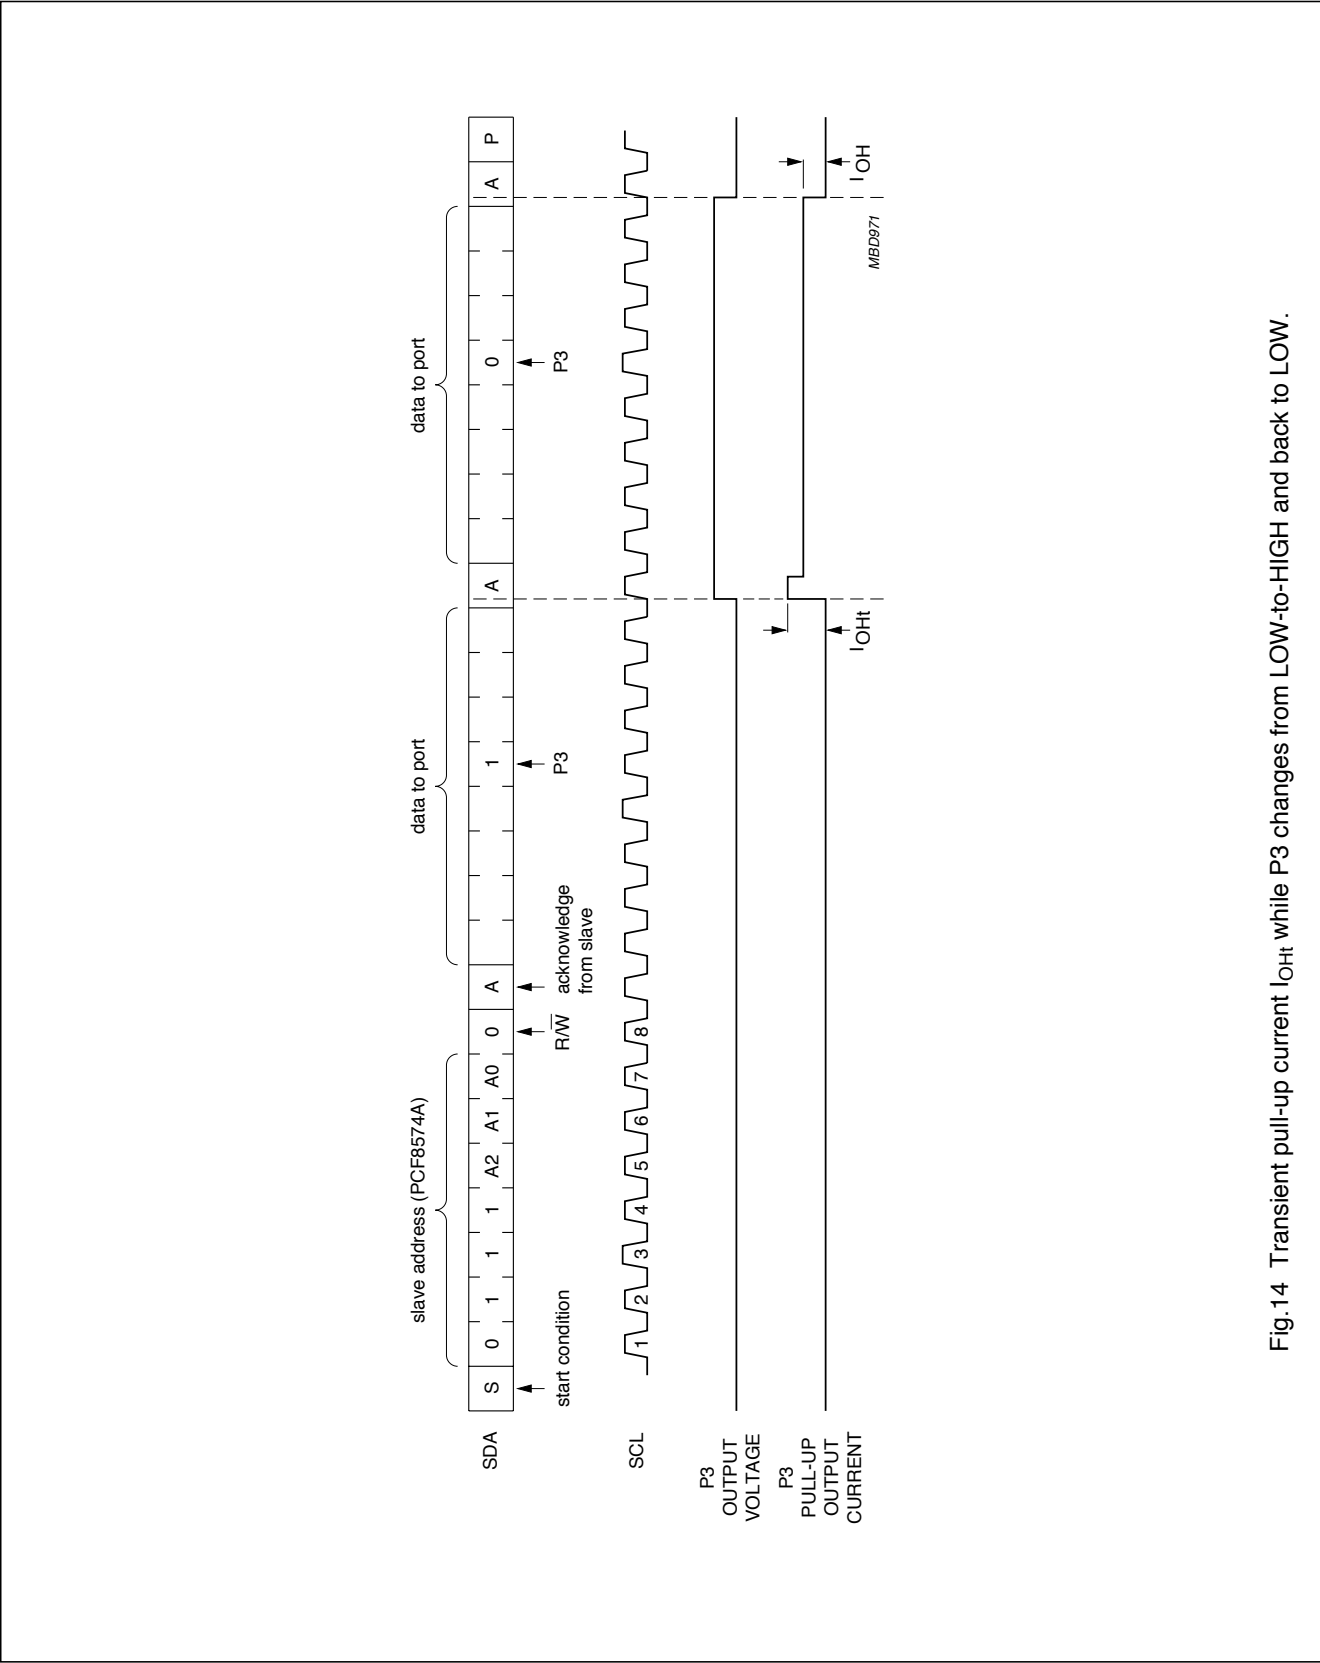

Fig.14 Transient pull-up current I_{OH} while P3 changes from LOW-to-HIGH and back to LOW.
7.3 Quasi-bidirectional I/Os (see Fig.14)